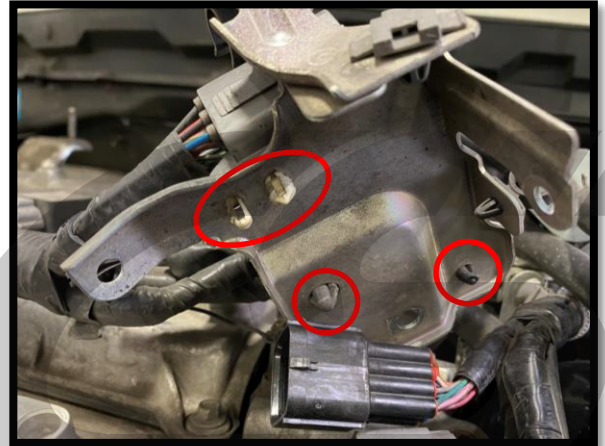

Figure 7f
k) Rotate the mounting bracket so you can see the underside as shown in **Figure 7f**. Unclip the wiring plugs from the bracket and remove this bracket from the vehicle.